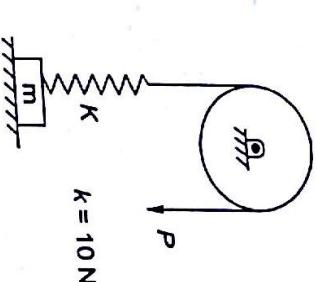

Fig. 3.66
- 3.9 A mass of 60 kg is supported on the ground. It is tied to a rope through a spring of stiffness 10 N/mm. At the end of the rope a force of 200 N is applied as shown in Fig. 3.66. What is reaction of the ground on the mass, $g = 9.8 \text{ m/s}^2$?